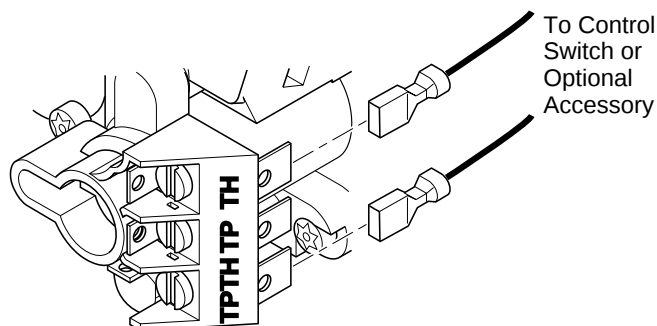

Figure 45 - Control Valve Terminals
1. Connect one terminal of 25 ft. wire for the wall switch to the TPTH terminal on the valve. Connect remaining wire terminal to the TH terminal on the valve. Make sure that the wire terminals are in the positions on the unit as pictured in Figure 45. If wires are not connected as shown the switch will not work.
3. Connect one terminal of the wire for the wall thermostat to the THTP terminal on the valve. Connect remaining wire terminal to the TH terminal on the valve. Make sure that the wire terminals are in the positions on the unit as pictured in Figure 45, page 22. If wires are not connected as shown the thermostat will not work.
2. Disconnect wires from THTP and TH on control valve that lead to the switch (see Figure 45, page 22). Discard switch plate, screws, and nuts.
- Connect the wires from the receiver to the valve at TH and THTP (see Figure 45, page 22).